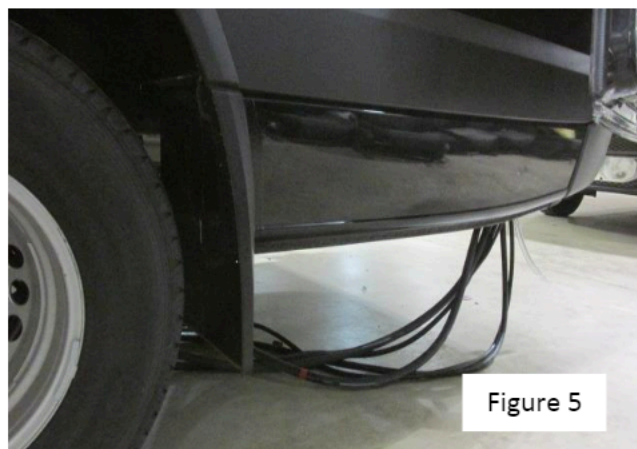

Figure 5
4. Route the bundle under the vehicle through the 3" access hole in the inner wall of the vehicle body on the driver rear side (Figure 5). Then bring the bundle up the 5" x 1 1/4" hole you created during the Evaporator install into the vehicle (Figure 6).